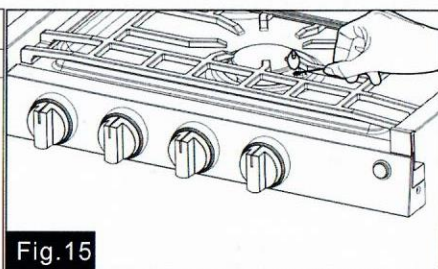

Fig. 15
4. IMMEDIATELY strike and place a burning long wooden match for the match extension or a butane Lighter with extension) through the spaces in the grate near the ports of the burner to light the burner. (Figure 15)